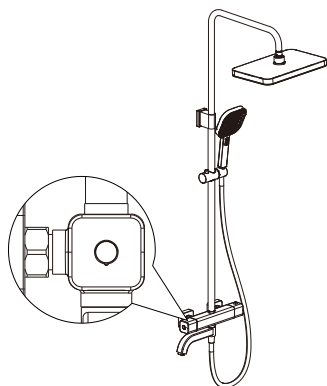

Figure 14A
- ① When the diverter handwheel sits flat and aligned with the mixer, the waterway is closed with no water discharge. (Shown in Figure 14A)